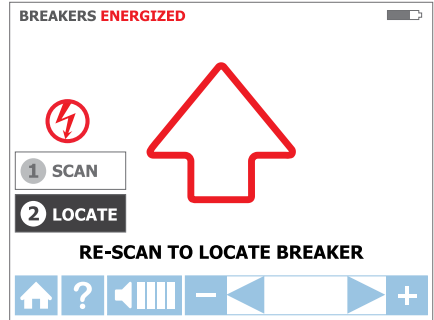
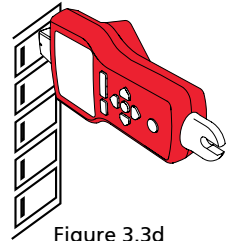

Figure 3.3c
Figure 3.3d
2. Scan each breaker for a half second by touching it with the Tip Sensor. Make sure the groove on the Tip Sensor is parallel to the breaker lengthwise (See Figure 3.3d)
1. Select LOCATE mode by using the directional arrows to highlight this operating mode and pressing the yellow "ENTER" button. (See figure 3.3c)
2. Rescan each breaker by touching each with the Tip Sensor for a half second. Active red arrow indicates scanning process (see Figure 3.3c). Make sure the groove on the Tip Sensor is parallel to the breaker lengthwise. (See Figure 3.3d)